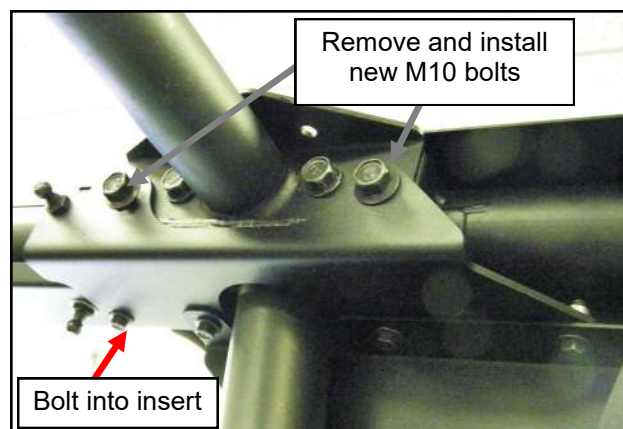

Fig. 8.2 Canopy gas spring bracket
- 8.2** Per figure 8.2, remove the (2) M10 bolts at the center ROPS cross tube, the farthest to the front and rear, from the left (driver's side) end of the cross tube. Place the left gas spring bracket against the ROPS as shown and secure it with new, longer M10 bolts and leave loose.
- 8.3** Per figure 8.2, insert one 1/4-20 bolt through the mount and into the insert in the header and leave loose. Install (3) 1/4-20 bolts through the B-pillar upper flange into the threaded inserts in the gas shock bracket and leave loose.